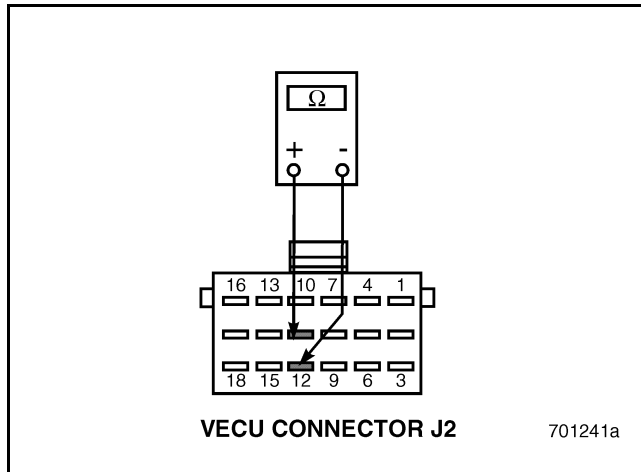

Figure 448
5. Measure the resistance between VECU connector J2 pin 11 and J2 pin 12 (see Figure 448).